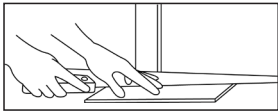

Figure 7
- Undercut door casings and jambs. Remove any existing base, shoe mold or doorway thresholds. These items can be replaced after installation. All door casings and jambs should be undercut to avoid difficult scribe cuts (Figure 7).